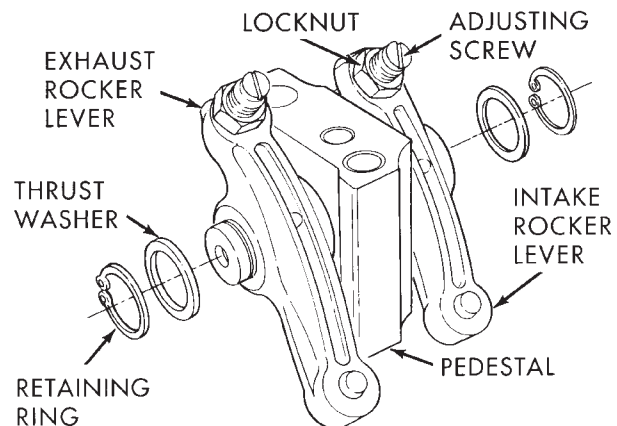

Fig. 117 Rocker Lever Components
(1) Remove the retaining rings and thrust washers (Fig. 117).
(2) Remove the rocker levers (Fig. 117). DO NOT disassemble the rocker lever shaft and pedestal. The pedestal and shaft must be replaced as an assembly.
(3) Remove the locknut and adjusting screw (Fig. 117).